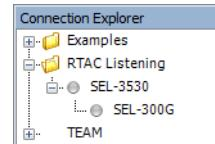

Figure 146 Connection Explorer
Step 14. Right-click on **SEL-3530** to add a relay by using the same process as in *Step 13*. Add the **SEL-300G**, as shown in *Figure 146*.